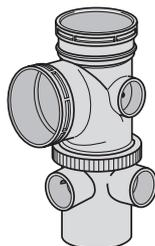

Fig.31d Install into buried drain seal
Step 4a – (Ground floor – spigot version) Push into buried drain lip seal (Fig.31d)